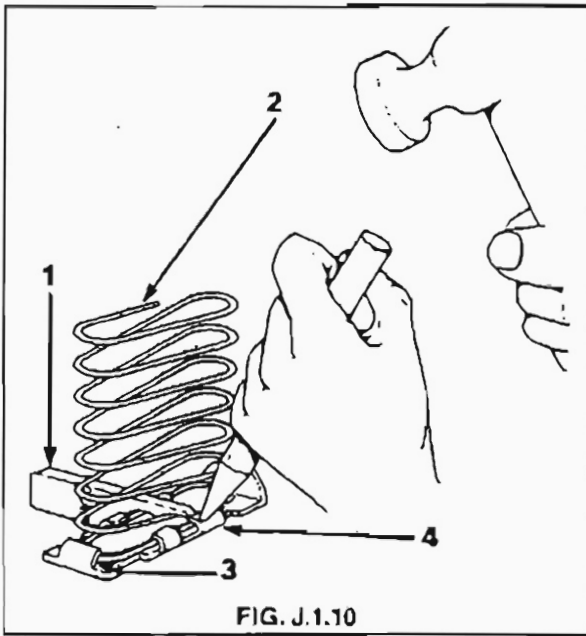

FIG. J.1.10
- Using the special positioning tool locate the follower spring onto the platform and using a suitable punch and a hammer bend the lugs to retain the spring in position. See Fig. J.1.10.